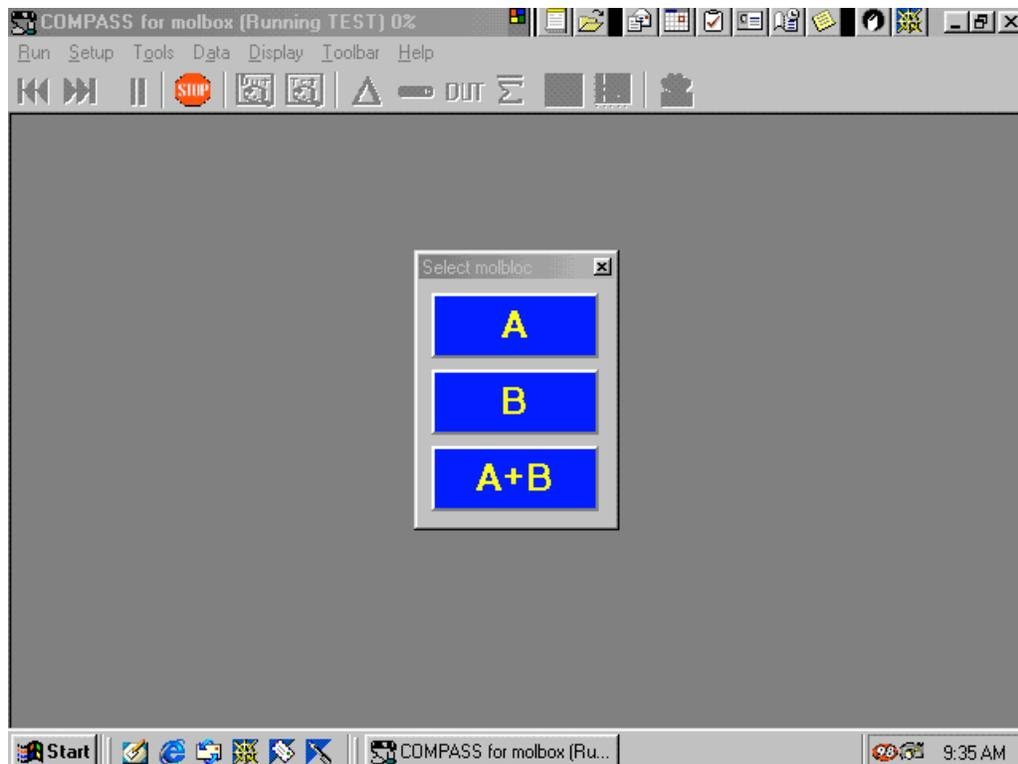

Figure 20 - Select Molbloc "A" or "B"
11.4.2 Select Molbloc (see figure 20). Each Molbloc is labeled "A" or "B".